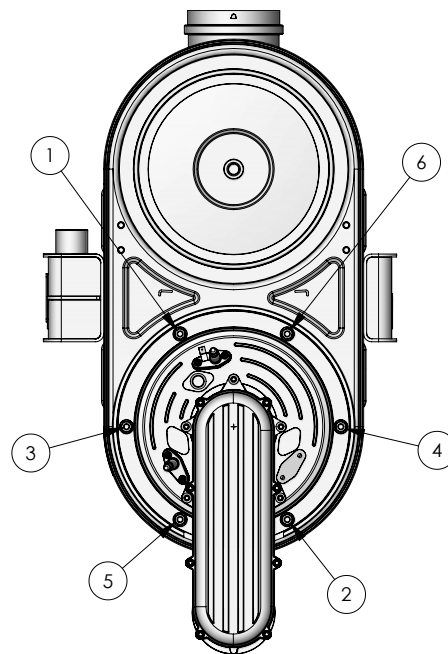

Figure 11.1 Duo Heat Exchanger Burner Door Tightening Pattern
- b. Install the burner plate assembly and replace the six 10 mm nuts. Tighten nuts to 7Nm torque following Figure 11.1 Duo Heat Exchanger Burner Door Tightening Pattern.